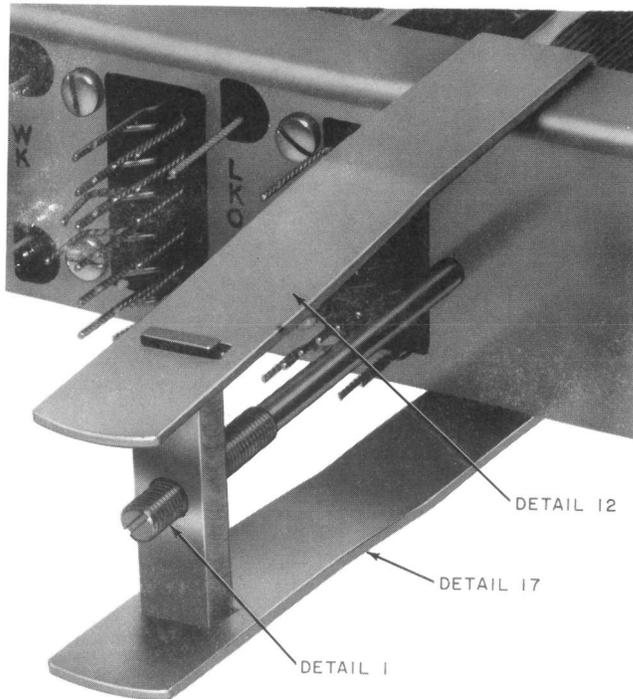

Fig. 17—Detail 12 Wedge Support, Detail 17 Wedge Support, and Detail 1 Wedge Support Assembly
- (a) Place the detail 12 wedge support on the top flange of the mounting plate as shown in Fig. 17 and the detail 17 wedge support on the lower flange (Fig. 17) close to the left corners of the relay. Assemble the detail 1 wedge support assembly to details 12 and 17, and tighten the screw against the mounting plate as shown.